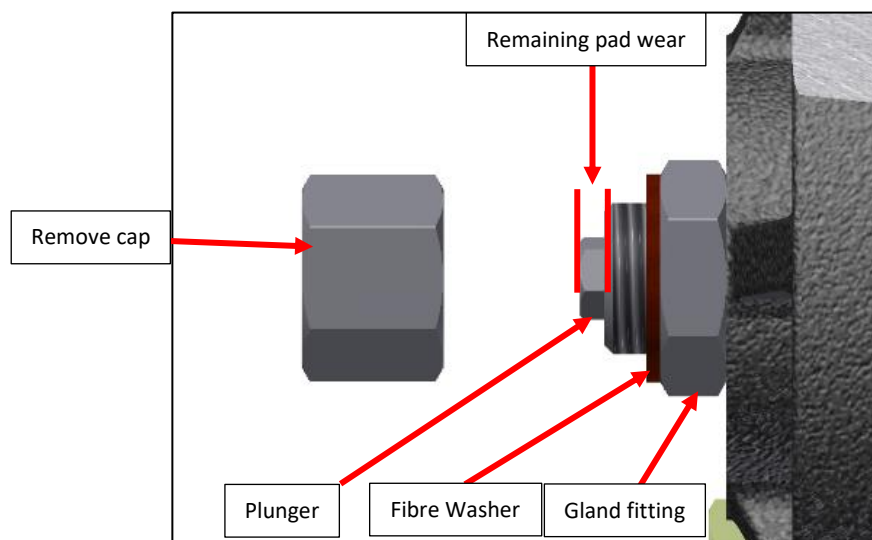

Fig. 56 Rear pad wear indicator schematic.
10. Check rear brake pad wear: See Fig. 56